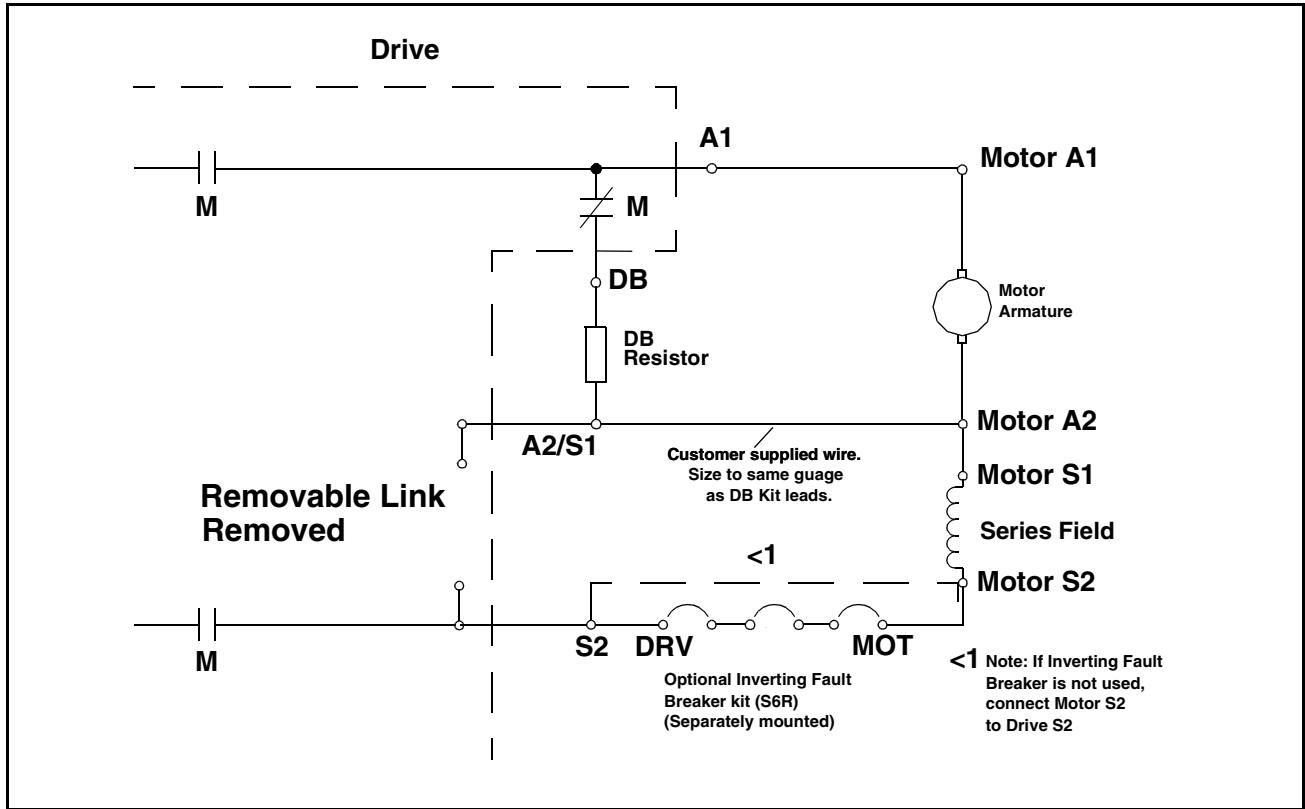

Figure 8 – DB with Series Field and Inverting Fault Circuit Breaker (S1 to A2)
- DB with a Motor Series Field, S1 connected to A2 *with* an Inverting Fault Circuit Breaker (figure 8)
- DB with a Motor Series Field, S1 connected to A2 *without* an Inverting Fault Circuit Breaker (figure 8)
- Step 1. Follow the wiring diagram in figure 8 to connect the motor armature and the Dynamic Braking Resistor assembly to the FlexPak 3000 drive.
- Step 5. Route the resistor assembly harness as required. Use M10 x 25 mm screws, nuts and washers to attach resistor assembly harness to DBR and A2/S1 connections on the drive. See figure 8.
- Step 6. Connect the S2 terminal to Motor S1 terminal (see the dashed-line in figure 8). Ignore the Inverting Fault Circuit Breaker illustrated in this figure.